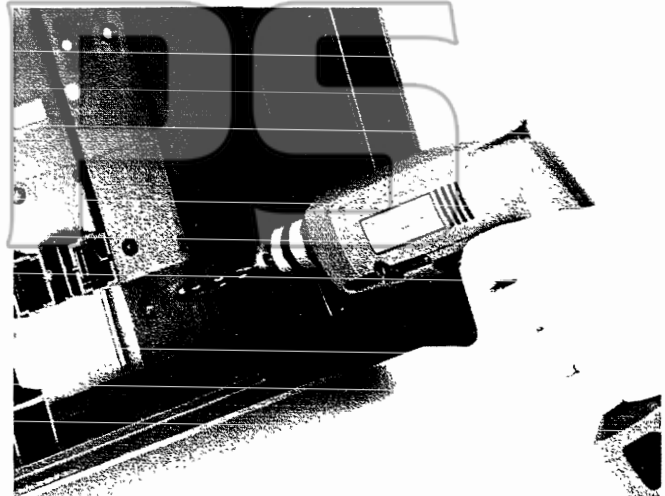

Figure 5. The inside of the breaker cover, showing the mounting holes being drilled.
3. Drill four $1\frac{5}{64}$ -inch (0.234 inch) holes through the cover, as shown in Figure 5.